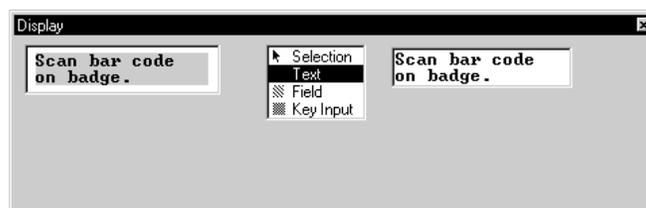

Figure 4-67 “Instruct1” Handler Display Message Entered
40. Press <Enter> to accept the text entry. The entered text appears in the display area at the left of the **Display** window (Figure 4-67).